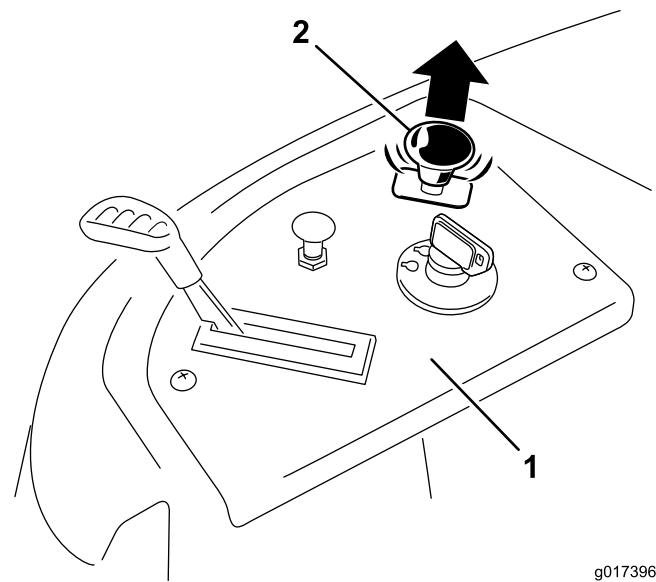

Figure 16
3. Pull up on the blade control switch to move it to the On position and engage the blades (Figure 16).